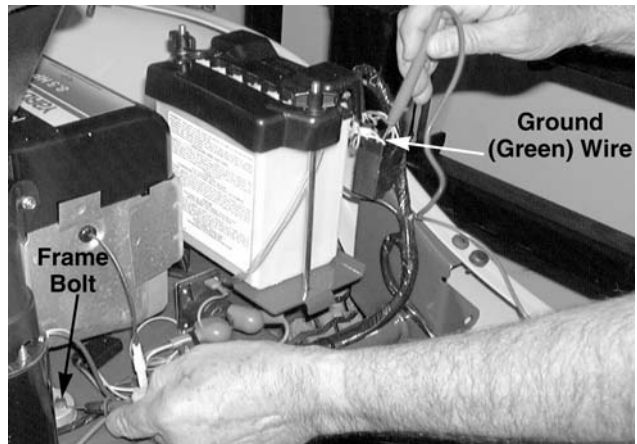

Figure 8-93.
–There will be **CONTINUITY**. See Figure 8-93.